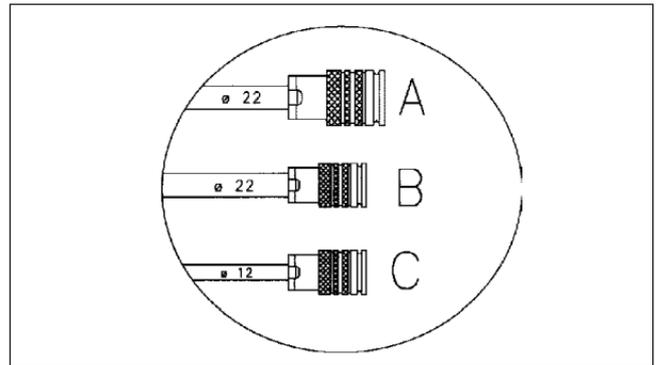
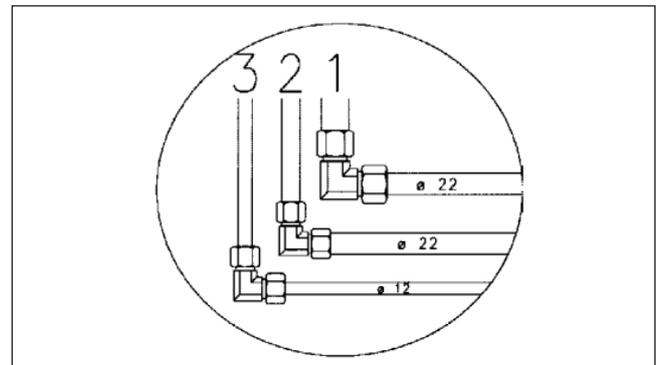

Fig. 2B. Quick couplings.
Fig. 2C. Pipes/hoses.
Two 22 mm hydraulic pipes are used for the oil supply to the fan. On the return line from the fan the pipe is mounted with 3/4" quick couplings and hoses (A). See fig. 2B.
The oil shall be routed to a pressureless return to the tractor, i.e. the 3/4" hose/quick coupling must be connected to a pressureless return on the tractor – if this does not exist, a pressureless return should be established by an authorized dealer. Connect the hose to this (1). See fig. 2C.
On the pressure side the pipe is mounted with 1/2" quick couplings (B), see fig. 2B and hose (2), see fig. 2C.
For the lifting/lowering function of the drive wheel on the tank a 12 mm hydraulic pipe with 1/2" quick coupling (C) is used, see fig 2B and a 1/4" hose (3), see fig. 2C, which are connected to a single acting outlet on the tractor (C) and (3).